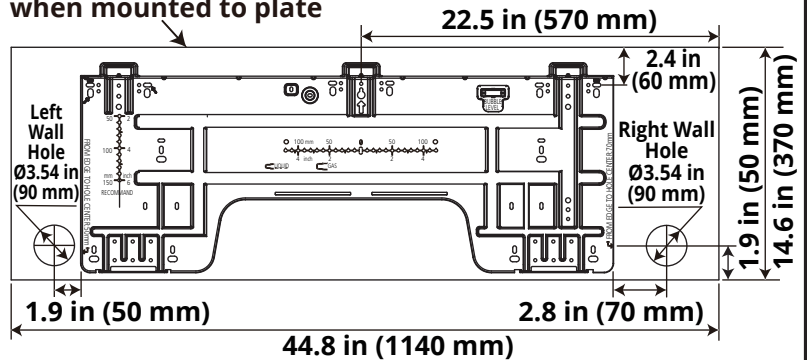

Fig. 5.3
2. Place the mounting plate against the wall in a location that meets the guidelines in the **Selecting an Installation Location** step. Refer to the illustrations in Fig. 5.3 for more information on mounting plate sizes.
1. Determine the location of the wall hole based on the position of the mounting plate. Refer to the **Mounting Plate Dimensions (Fig 5.3)** to assist you in determining the optimal position for the hole, based on the type of mounting plate provided with your unit.